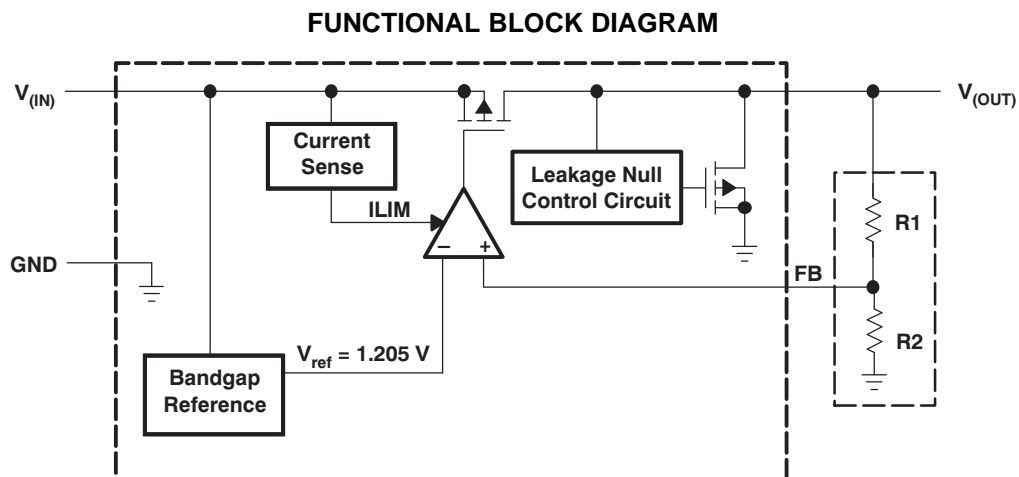

Figure 1. Functional Block Diagram
(1) Minimum $V_{IN} = V_{OUT} + V_{DO}$ or the value shown for *Input voltage* in this table, whichever is greater.
(2) See Figure 1. The TPS71501 employs a leakage null control circuit. This circuit is active only if output current is less than pass FET leakage current. The circuit is typically active when output load is less than $5\text{ }\mu\text{A}$, V_{IN} is greater than 18 V , and die temperature is greater than 100°C .